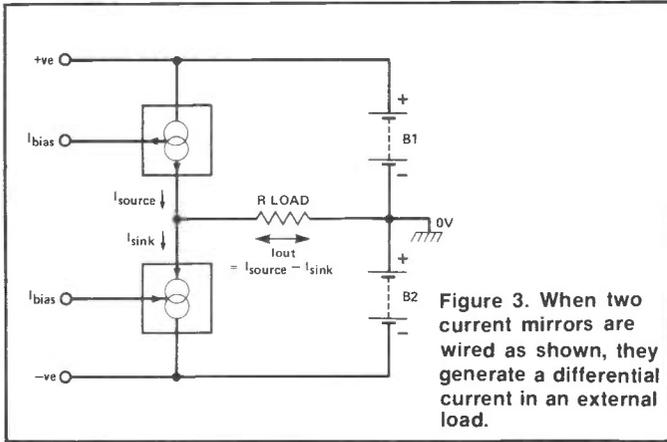

Figure 3. When two current mirrors are wired as shown, they generate a differential current in an external load.
The CA3080 is a fairly straightforward device, made of nothing more than one differential amplifier and four current mirrors. Each of these comprise a 3-terminal circuit that, when provided with an external bias current into its input terminals, produces an in-phase current of identical value at its output terminals. When a current mirror (CM) source and CM sink are connected as shown in **Fig. 3** and powered from split supply rails, they generate a differential ($I_{source} - I_{sink}$) current in any external load that is connected to the 0V rail.